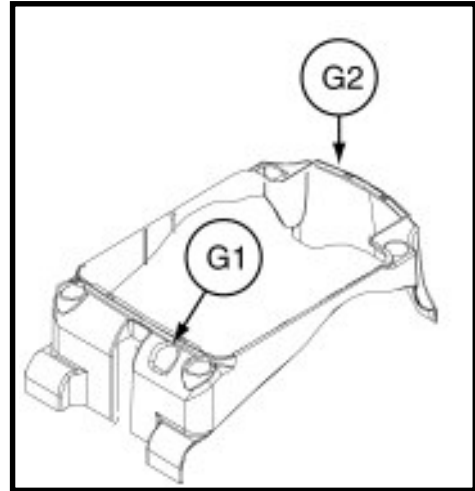

Figure 6. Battery Tray Shrouds
1. Remove the circuit breaker cover (G1), using a 17-mm deep dish socket or box wrench. See figure 6.